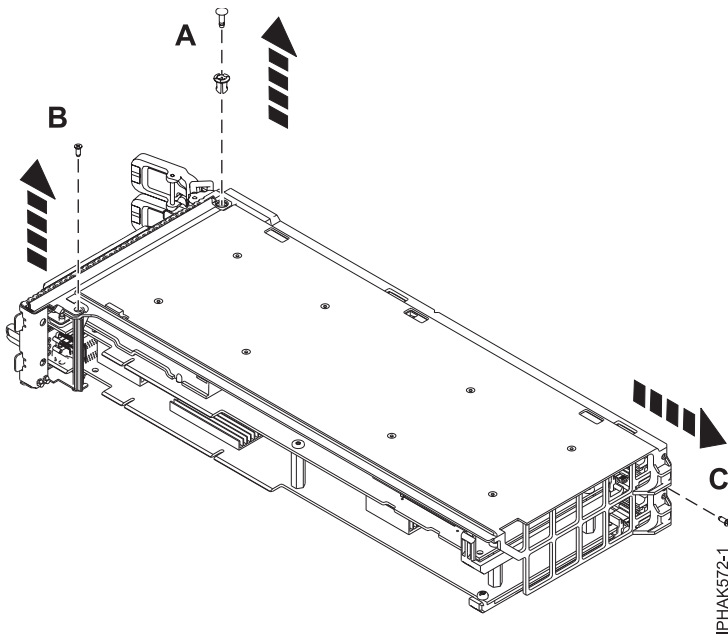

Figure 68. Removing the push pin and screws
3. Remove the push pin (A) from the top of cassette assembly by the tail stock. See Figure 68 on page 82.
4. Remove the screw (B) from the bottom of the tail stock. See Figure 68.
5. Remove the screw (C) from the rear of the cassette assembly. See Figure 68.